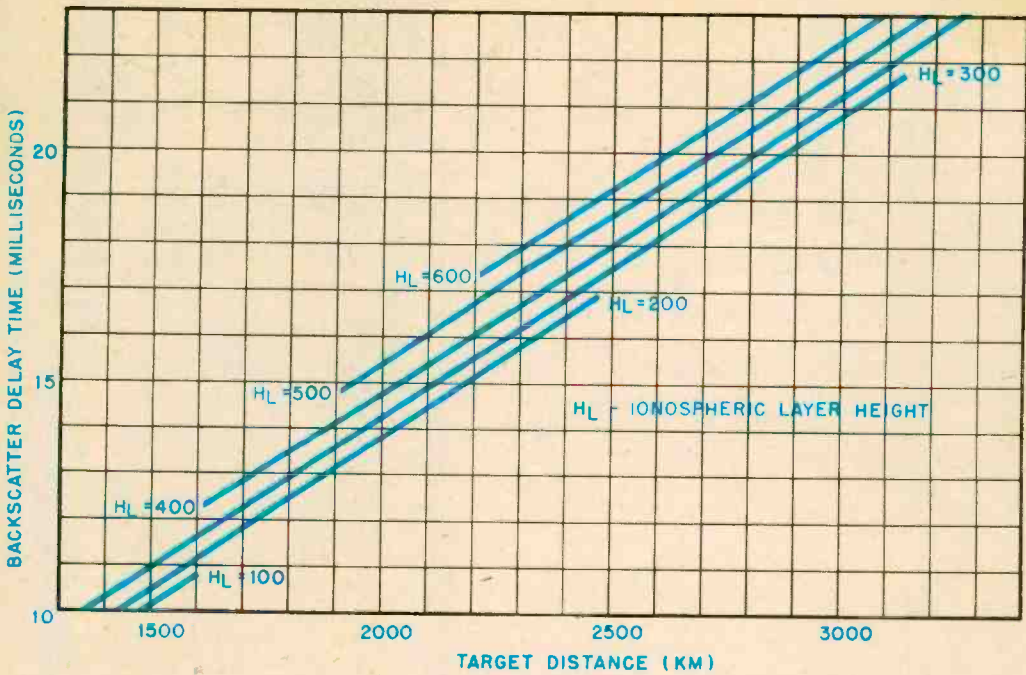
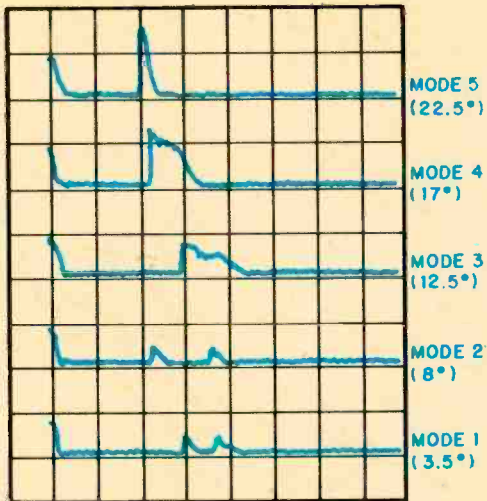

Fig. 1. Nomograph shows relationship of backscatter time to target distance. Height of ionosphere (up to 300 mi.) depends on amount of solar activity.
Fig. 2. RFE backscatter depends on finding best angle for propagation of signal at a given frequency. Distance increases as angle decreases.
The all-angle mounts we used to connect each platform to the vertical support poles are available from Lafayette and other distributors. Use U clamps. The mounting clamp included with the mounts is not suitable for this application. Modify the clamps to the dimensions shown in Fig. 1 to accommodate the poles. The all-angle mount, although not specifically designed for this application, works well with only one minor modification: 2 in. to the left of the upper hole (on the arc of holes) drill a 1/4-in.-dia. hole to accommodate the top U clamp (Fig. 2).
In addition, when the pulses are viewed on a scope, the time delay can be calculated. The time delay between the transmitted pulse and received echo gives the approximate location of the point of reception. This is illustrated in Fig 1. If a scope shows a delay time of 20 milliseconds at a particular frequency, we can arrive at our target's distance by estimating the height of the ionosphere (HL). In general, 300 kilometers is a reasonable assumption and the chart gives us a target distance of about 2,900 kilometers. Since no energy has been returned from a closer location it follows that the target distance was about 2,900 kilometers (or 1828 miles).